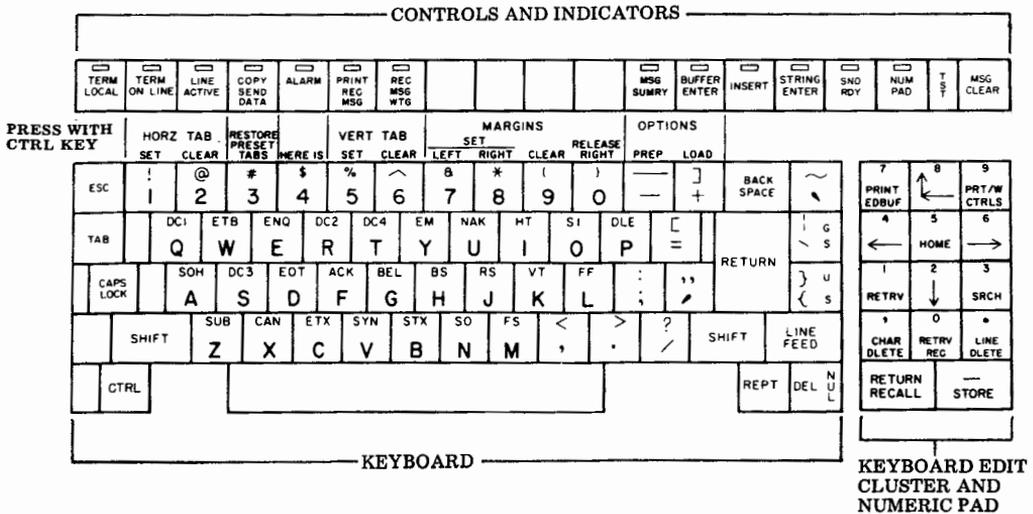

Fig. 2
2.10 The 43 teleprinter 8-level (BSC) can be identified by its keyboard layout. See Fig. 2.